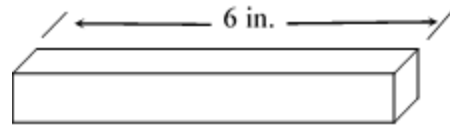

Figure 3
- 5.4** Using the calipers record the outside measurement of the 6 in. gauge block (Figure 3).